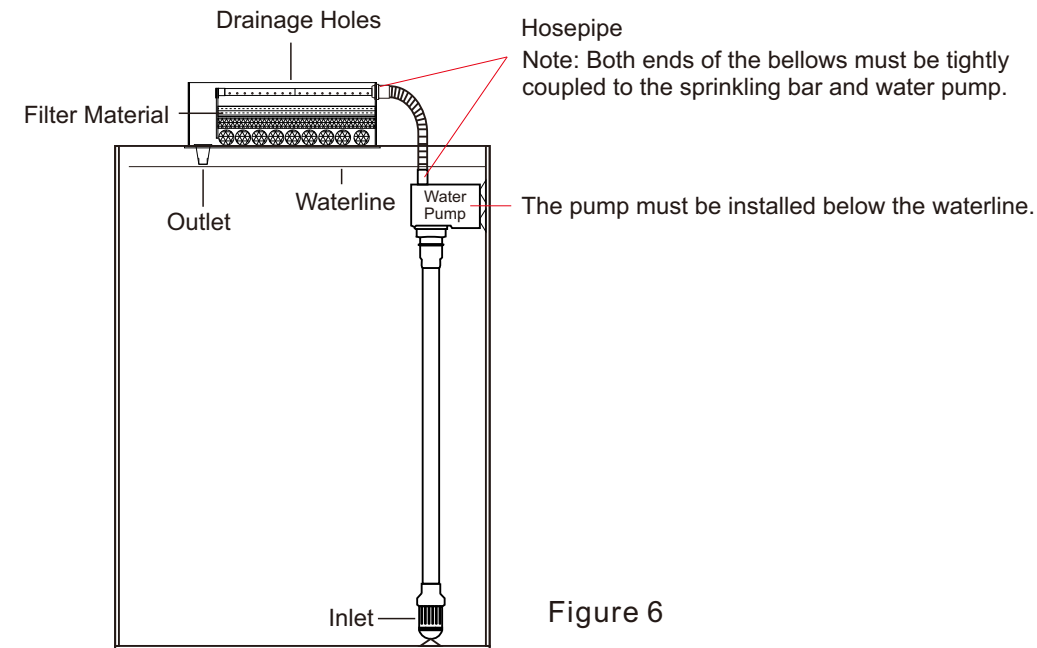

Figure 6
① Acrylic Aquarium Top Filter Installation Refer Fig 6.